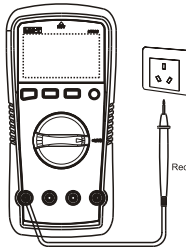

Figure 6
8. Live Wire or Neutral Wire (Figure 6)